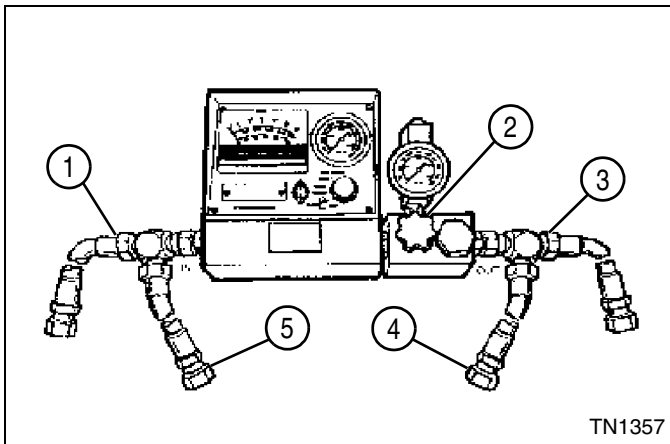

Figure 5-15
See Figures 5-15 and 5-16.
3. (See Figure 5-15.) Remove the blocking disks from locations (1 and 3).